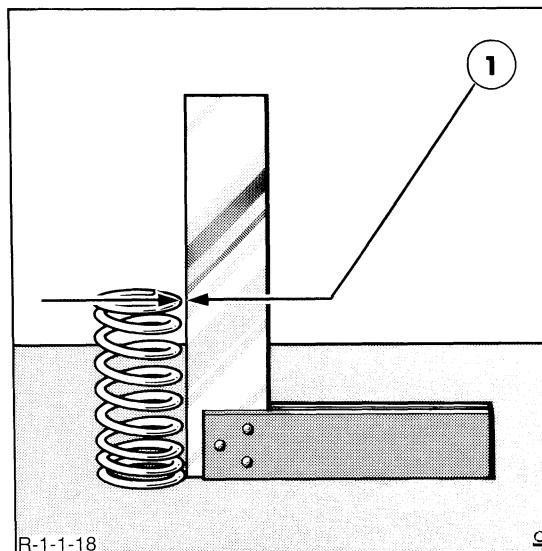

Figure 18
1. Renew worn or damaged valve springs. Check for squareness and reject if out-of-squareness exceeds 0.06 in. (1.52 mm), Figure 18. Check the free length and loaded length of each valve spring, see "Specifications" – Chapter 3. Ensure the valve spring retainer locks are in good condition.